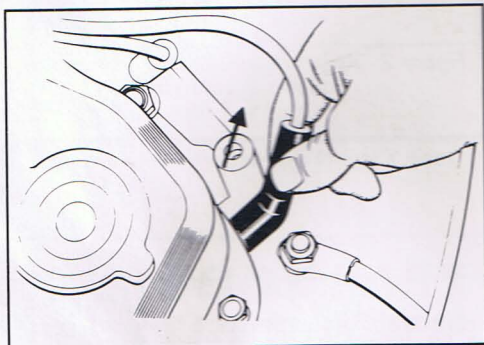

Figure 1 - Removing spark plug wire
2. Remove the first spark plug wire by pulling on the boot, not on the wire itself. (If the spark plug boot is stuck to the spark plug, a slight twisting motion on the boot will assist in breaking loose the boot.) See Figure 1. Pulling on the wire may separate the carbon center, causing the wire to fail and the engine to misfire. This can happen with no evidence of damage on the outer insulation. In case of wire damage, it is necessary to replace the complete wire, since a satisfactory repair cannot be made. Also, pull the boot by hand or with a special spark plug boot tool only — never use pliers.